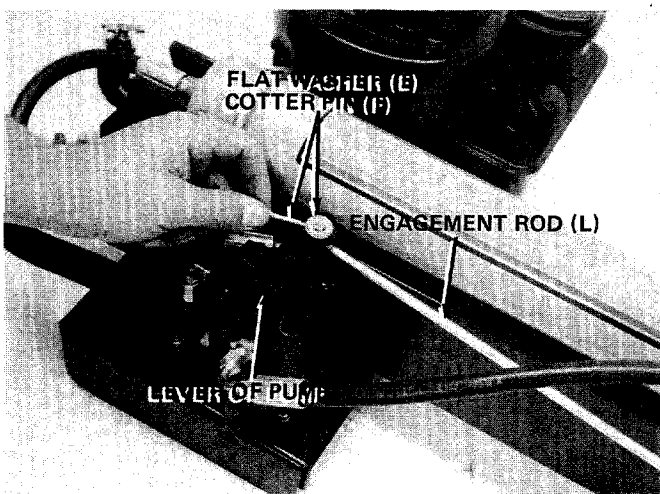

FIGURE 3.
1. Hook the bent end of the engagement rod (L) into the lever on top of the pump. See figure 3.
2. Next, place flat washer (E) over the rod. Insert the cotter pin (F) into the hole in the rod and secure by bending the ends of the cotter pin in opposite directions.